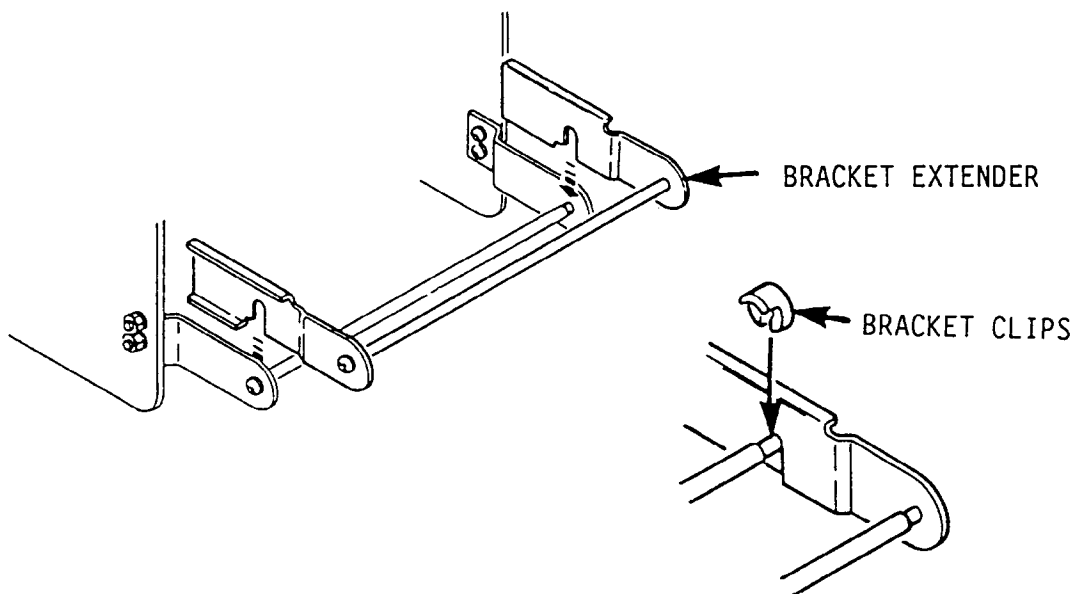

FIGURE 2-18. INSERTING THE BRACKET EXTENDER AND CLIPS
6. Install the supplied bracket extender into the slots on the original bracket as shown in Figure 2-18. Push the extender arms outward so that they attach to the original bracket arms.